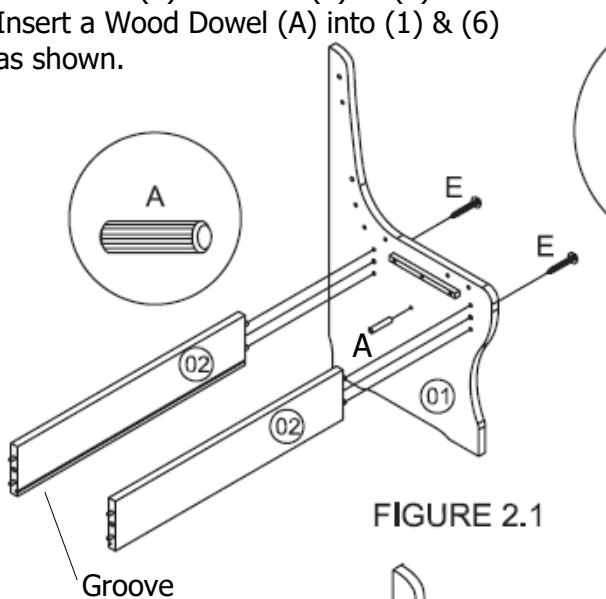

FIGURE 2.1
- a) Refer to Figure 2.1 - Position a Middle Leg (1) as shown and attach Front & Back Rail (2) for Single Bench to (1) via wood dowels on (2). Check that the groove on each rail is at the bottom and facing inward towards each other.
- b) Use Screw (E) to fasten (2) to (1).
- c) Insert a Wood Dowel (A) into (1) & (6) as shown.